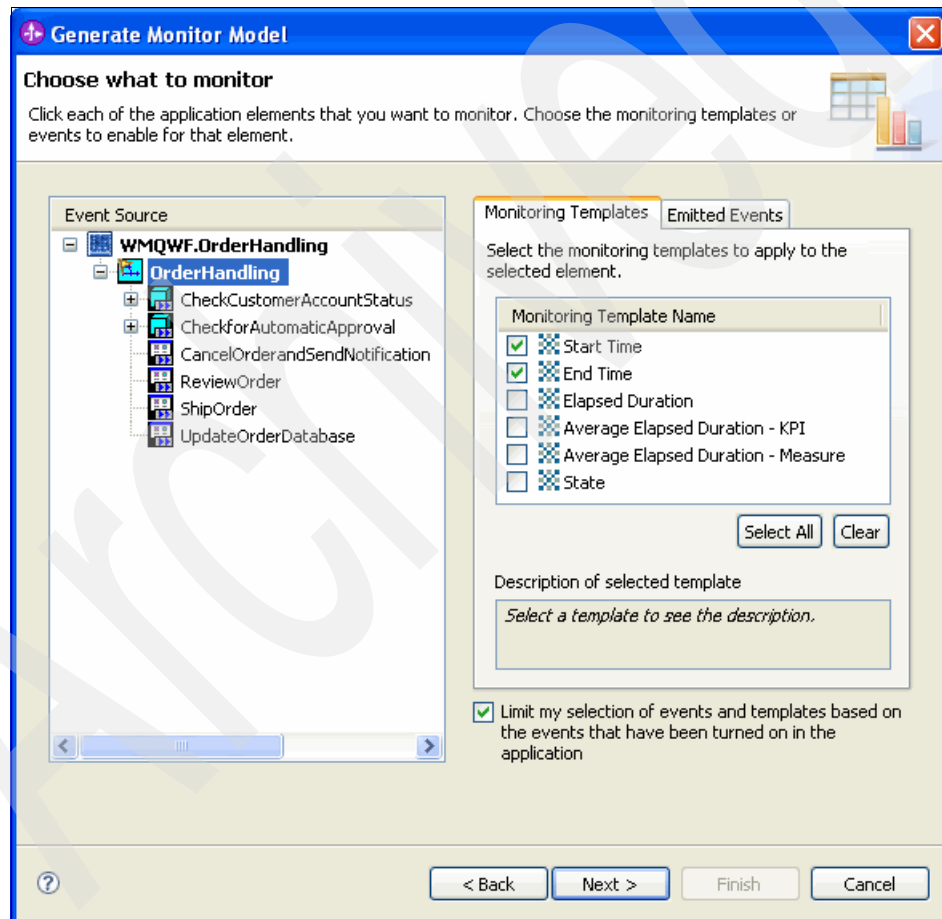

Figure 8-50 Choosing the monitoring template for the OrderHandling process
7. In the Generate Monitor Model – Choose what to monitor window (Figure 8-50):